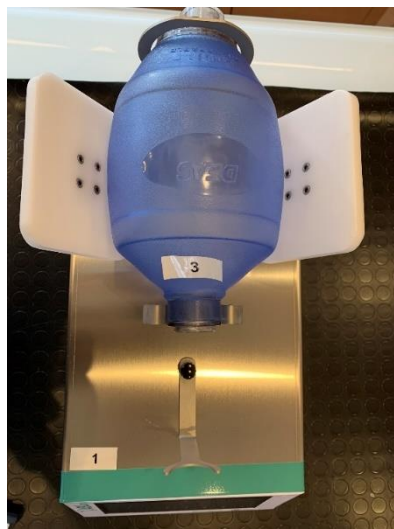

Figure 4.9: Positioning the ABU balloon.
- 2- Place the ABU balloon (3) as shown in Figure 4.9.